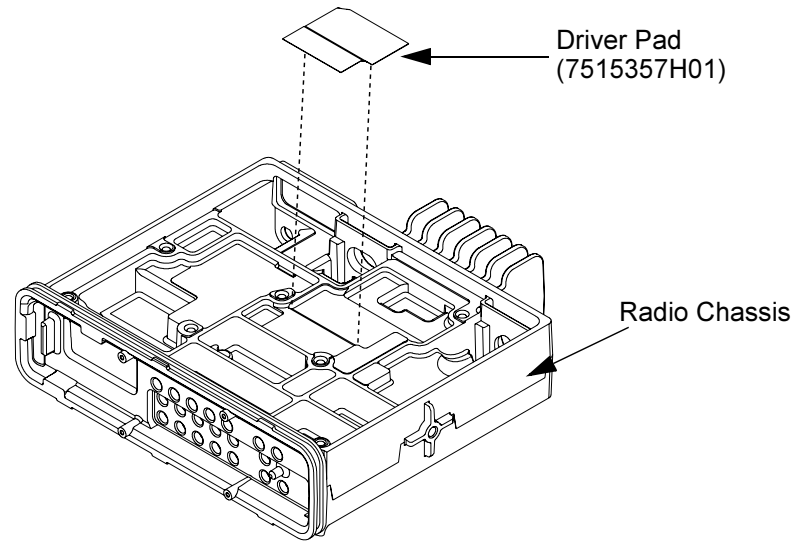

Figure 5-21. Aligning Driver Pad on Chassis
3. Once the surface is clean and dry, remove the new pad from the shipping liner, and place the pad on to the chassis, aligning the edges of the pad with the edges of the chassis, as shown in Figure 5-21.